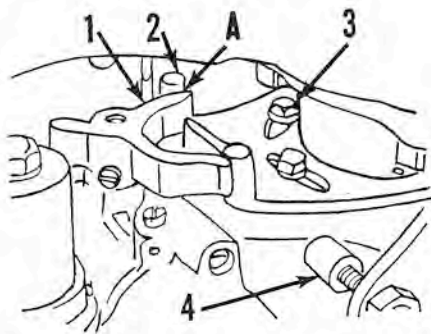

Fig. M80—Throttle control mechanism used on late four cylinder models.
Other Four-Cylinder Models: First make certain that magneto is properly timed and adjusted. With the engine not running, slowly move the speed control lever toward the "Fast" position until magneto advance stop just touches the crankcase. Refer to Fig. M80. Loosen the screws (3) securing the throttle actuator assembly to economizer collar; then move the actuator plate until 0.015 clearance (A) exists between follower (2) and throttle cluster lever (1). Tighten the attaching screws. Move the speed control lever to "Fast" position and adjust the full throttle stop screw (4) to allow throttle lever (1) 1/64-inch travel to full open throttle position.